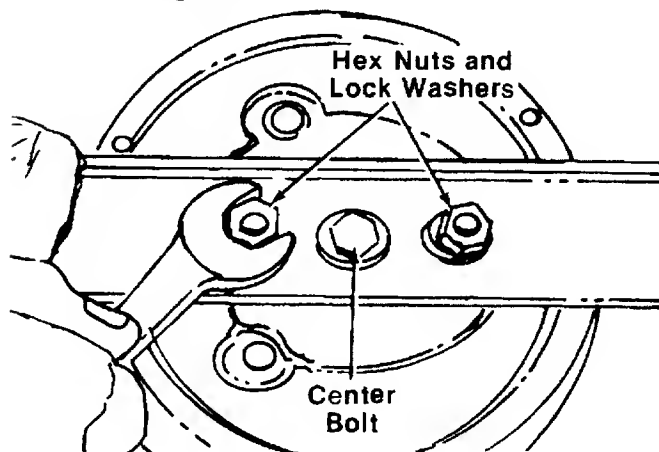

FIGURE 21.
To remove the cutting blade for sharpening or replacement, remove the two hex nuts and lock washers which hold the blade to the blade brake/clutch. Protect hands by using heavy gloves or a rag to grasp the cutting blade. See figure 21.
9. Tip the mower on its side. Remove the blade by removing two hex nuts and lock washers. Refer to figure 21.